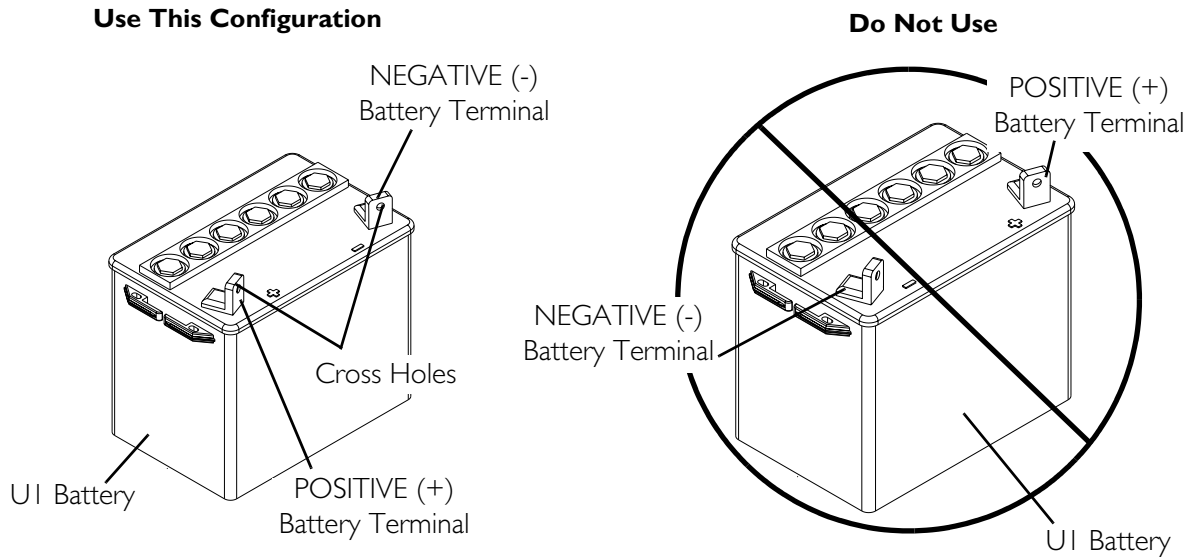

FIGURE 15.1 Using the Proper Batteries
NOTE: For this procedure, refer to FIGURE 15.1 on page 55.
2. Visually draw a horizontal and vertical centerline through the middle of battery (FIGURE 15.1).
4. Visually inspect the battery to ensure the correct position of the POSITIVE and NEGATIVE terminals (FIGURE 15.1).